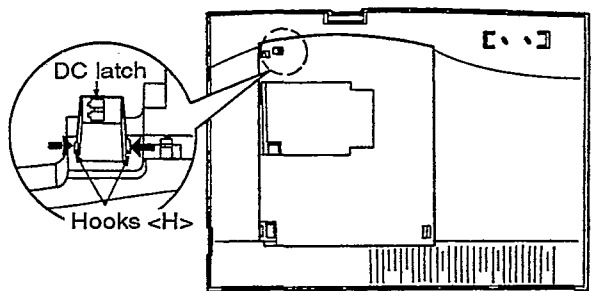

Figure 10
(1) After removing the top case, unlock two hooks <H> at reverse side of the top case as shown in figure 10.
(2) Remove the DC Latch.